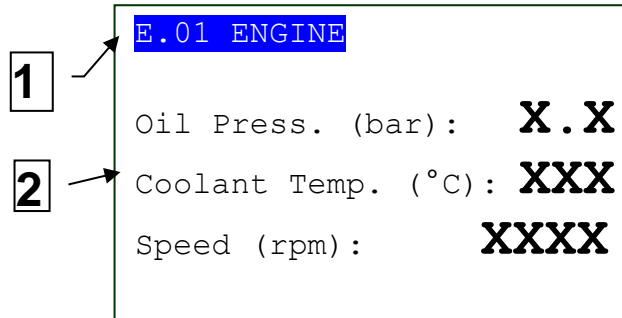

Fig. 3 - Display areas
8.4.4 Display area layout (ref. to fig. 3)